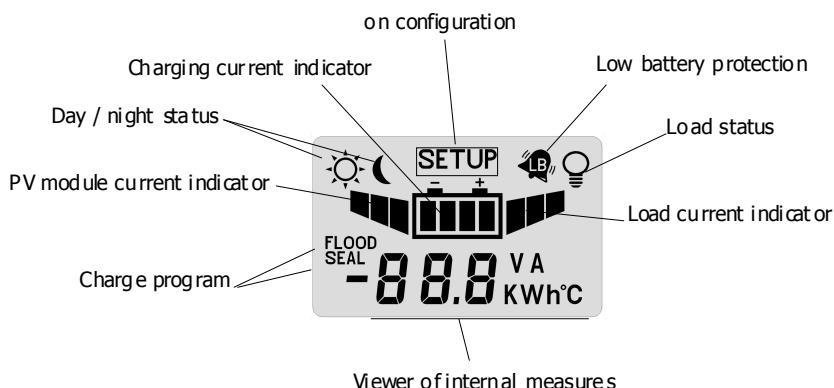

Fig. 3 Display
Once made the connections as shown in Fig. 3 it is necessary to test the system.
- 2) **Wait (~30 sec.) until in the display disappears the animation inside the battery icon (fig. 3 - charging current indicator)**